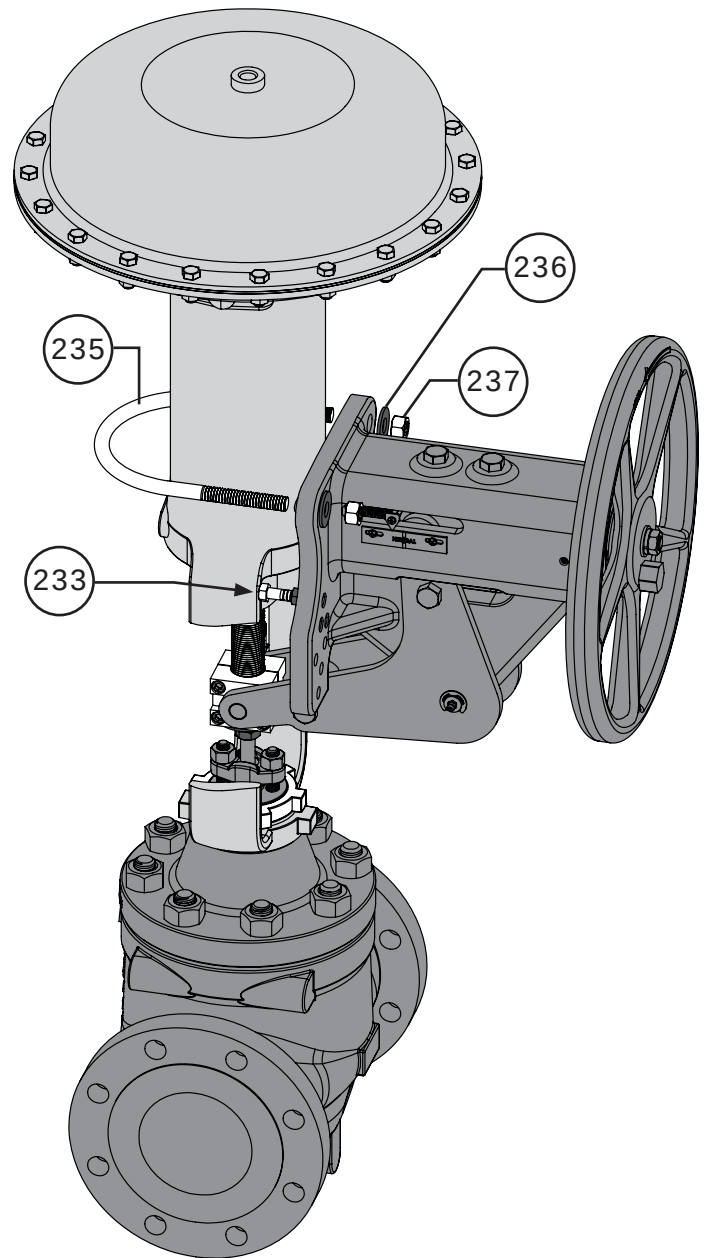

Figure 45 U-Bolt Installation
- 8 Install the u-bolt (Key 235), washers (Key 236), and hex nuts (Key 237). Hand tighten the hex nuts used to secure the bolt. The jack screws (Key 233) may need to be adjusted in order to install the u-bolt. Refer to Figure 45.